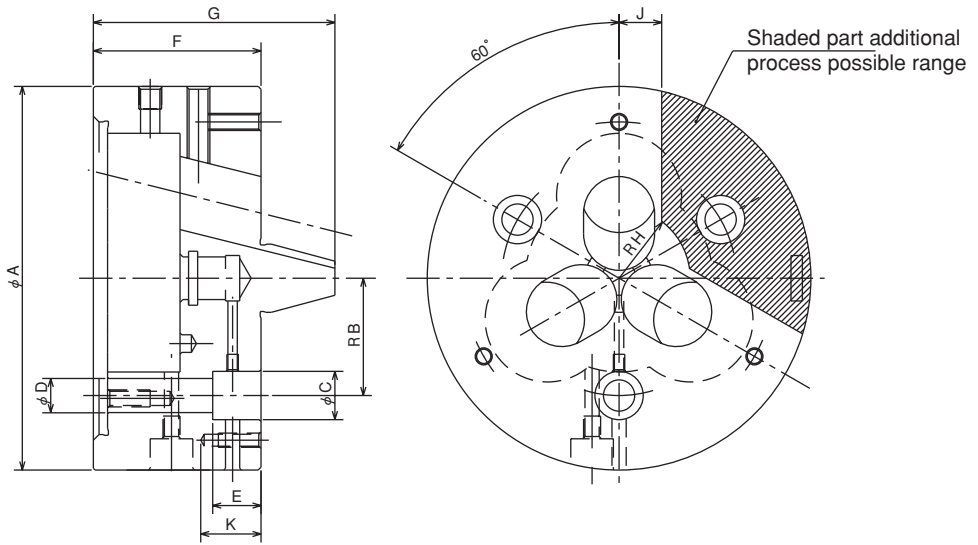

Fig. 8
- In the case of attaching the locator and the jig on the chuck body surface, tap or drill a hole in the additional process range specified in Fig.8.